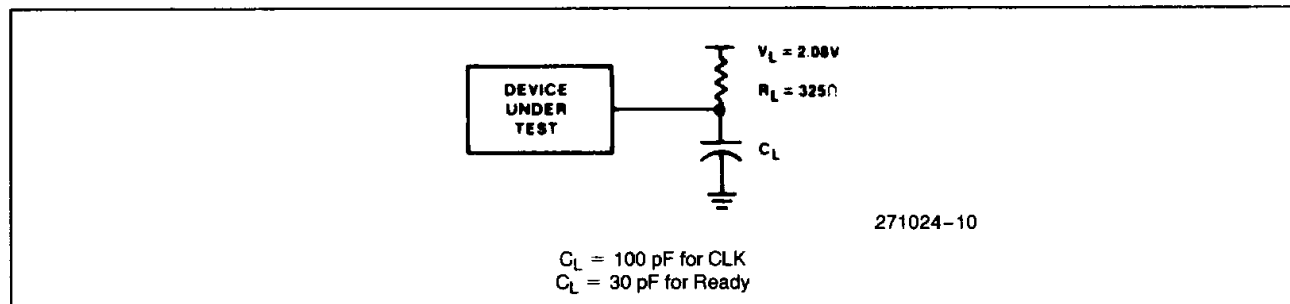

Figure 10. Test Load Measurement Condition
- †Figure 10 illustrates test load measurement condition.